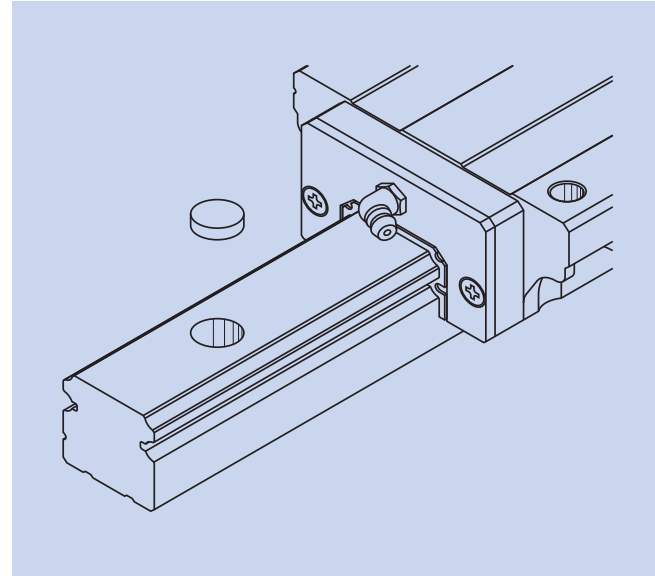

Fig. 17
- After the rail is mounted to the machine base, a bolt-hole cap is used to plug the bolt hole to prevent foreign matters from clogging up the hole and from entering into the slide (Fig. 17).